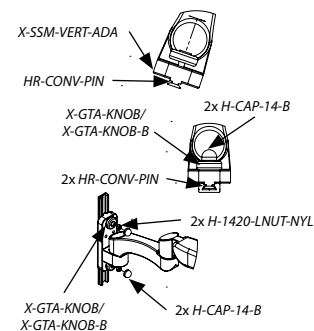

Figure 3
4. Turn 2x X-GTA-KNOB/X-GTA-KNOB-B to loosen 2x HR-CONV-PIN. Tilt and guide the 2x HR-CONV-PIN into the opening of the VRS RAIL. (**Figure 3**)
5. Ensure the flange on the X-SSM-VERT-ADA is properly aligned with the VRS RAIL. Position to desired height before tightening 2x X-GTA-KNOB/X-GTA-KNOB-B. (**Figure 3**)
6. Lock the 2x X-GTA-KNOB/X-GTA-KNOB-B with 2x H-1420-LNUT-NYL using a 1/2" (12.7 mm) socket wrench and cover with 2x H-CAP-14-B. (**Figure 3**)